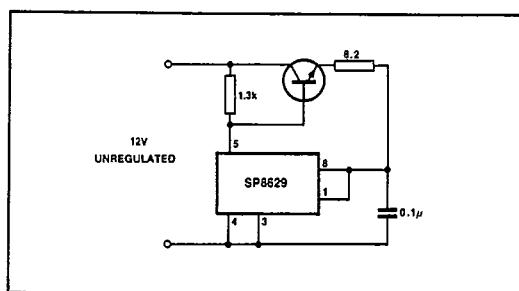

Fig.8 Use of on-chip zener diode for operation from unregulated supply
5. The on-chip Zener diode allows a simple stabilised power supply to be constructed with the addition of a few extra external components, as shown in Fig. 8, to the SP8629.